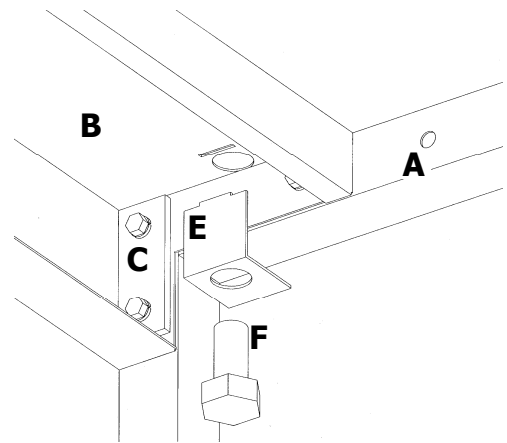

Figure 2
1. Place one stand frame (A) on working surface with threaded holes face up.
2. Fit both sides (C), to the stand frame with the screws and washers (E). Ensuring the clamp plates (D) are fitted on the upright sections inside the sides (Figure 2).
3. Place the other stand frame (A) on working surface with threaded holes face up.
5. Secure the sides to the stand frame with the screws and washers (E). Ensuring the clamp plates (D) are fitted on the upright sections inside the sides (Figure 2).
- c. Secure oven using screws (F). It is essential that the Bolting Bracket (E) is correctly in position, refer Figure 2. Bolt up through mounting bracket and stand into oven foot plate.